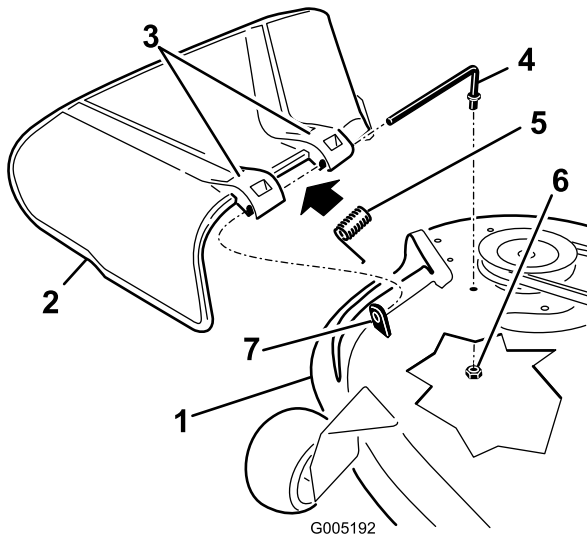

Figure 58
1. Locate items shown in Figure 58.